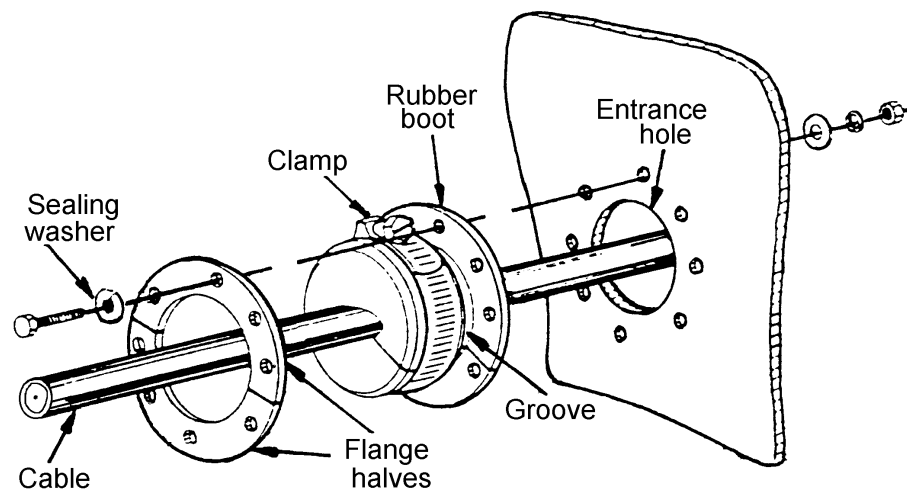

**Figure 1.27** - Installing the Outer Body
- 8.9 Place the large thin O-ring in the gasket groove in the clamping nut (Figure 1.27) and coat the outer surface of the gasket lightly with silicone grease. Screw the outer body of the connector on to the clamping nut and tighten with spanners. Turn the outer body only; do not turn the clamping nut.